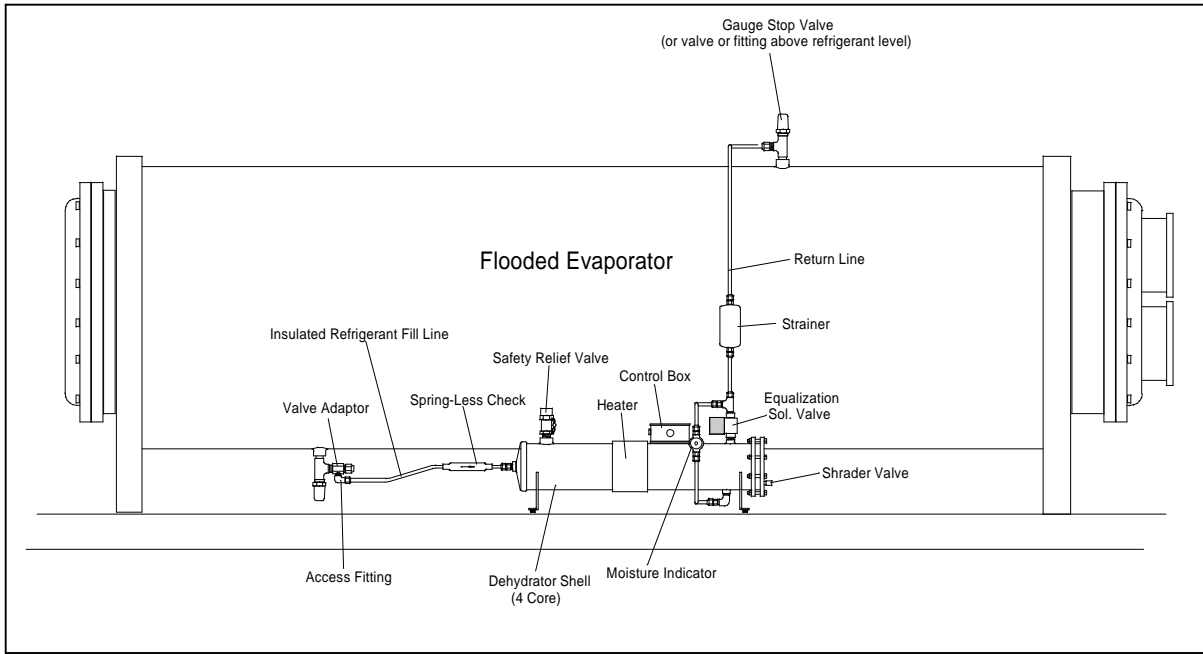

Figure 1
- 2) Next, from the installation kit, select the ¼" **NPT access valve fitting**, ¼" **Female Flare to 3/8 Flare adapter** and the 3/8" **ODS spring-less check valve**. (PLUG THE UNUSED NPT PORT USING A ¼" PIPE PLUG FROM THE INSTALLATION KIT). Using 3/8" OD copper tubing and the above selected items plumb the Fill Line as illustrated in **Figure 1 on page 7**.
NOTE: The moisture indicating sight glass **MUST** be installed so that it is centered on line with the top of the dehydrator dryer shell as illustrated in Figure 1. This will facilitate determination of proper dehydrator filling.
However, because the flow direction is reversed the 120-mesh ***inlet strainer screen*** is now at the outlet end of the Dehydrator shell and thus for all practical purposes useless. Therefore, a 3/8” flare ***inline strainer*** is provided in the installation kit for installation in the refrigerant return line as illustrated in *Figure 1*. The purpose of the inline strainer is to do what the 120-mesh screen would ordinarily have done and that is, trap and collect any particles that might have rubbed off the drier cores during installation.